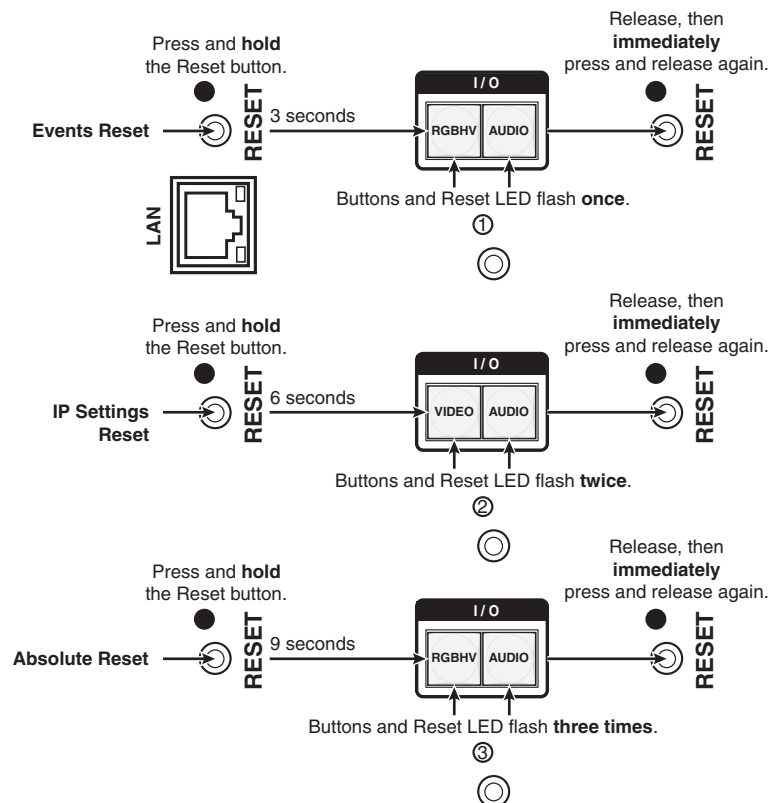

Figure 3-71 — Whole switcher and absolute resets
1. Use an Extron Tweeker or other small screwdriver to press and **hold** the rear panel Reset button until the front panel RGBHV and Audio buttons blink once (events reset), twice (system reset), or three times (absolute reset) (figure 3-71).